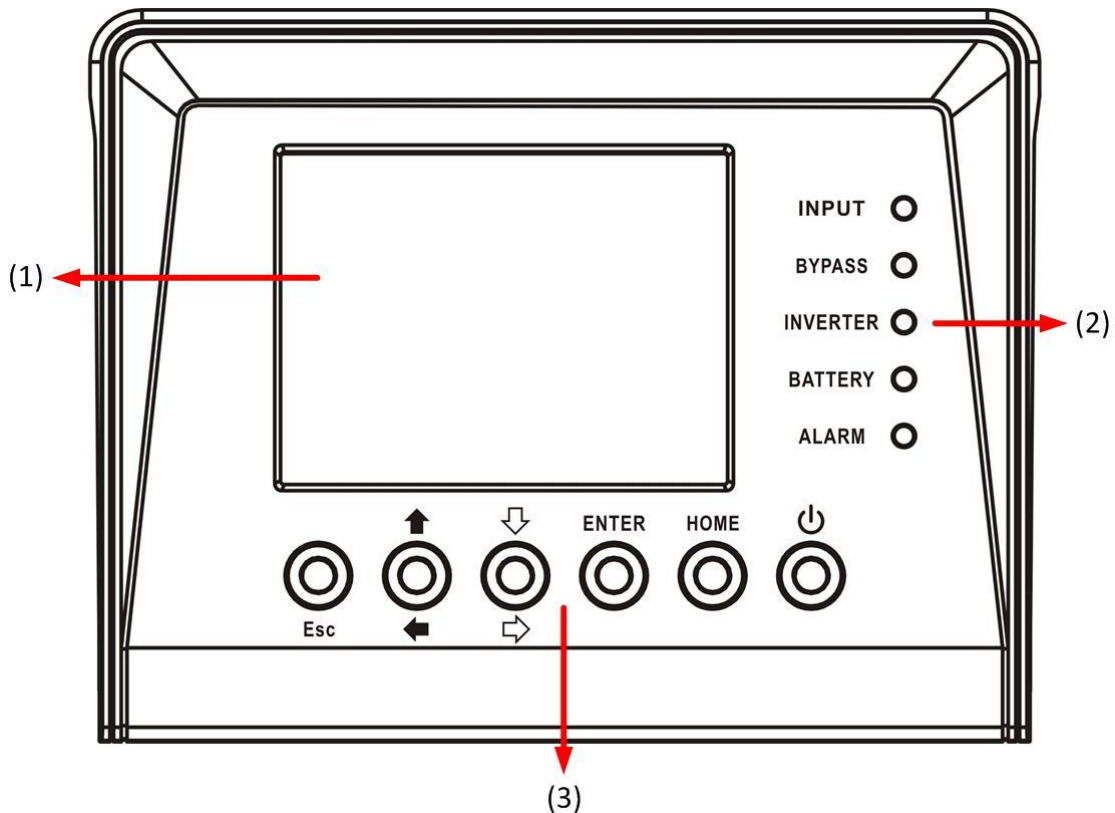

Figure 4-1 Control panel parts
This control panel and display description is located on the front door of the UPS. It is the USER control and monitoring of all measured parameters, UPS and battery status and alarms. The control panel and display description is divided into three functional areas: (1) LCD display, (2) LED indications, (3) Control keys, (4) Audio Alarm, as shown in Figure 4-1.